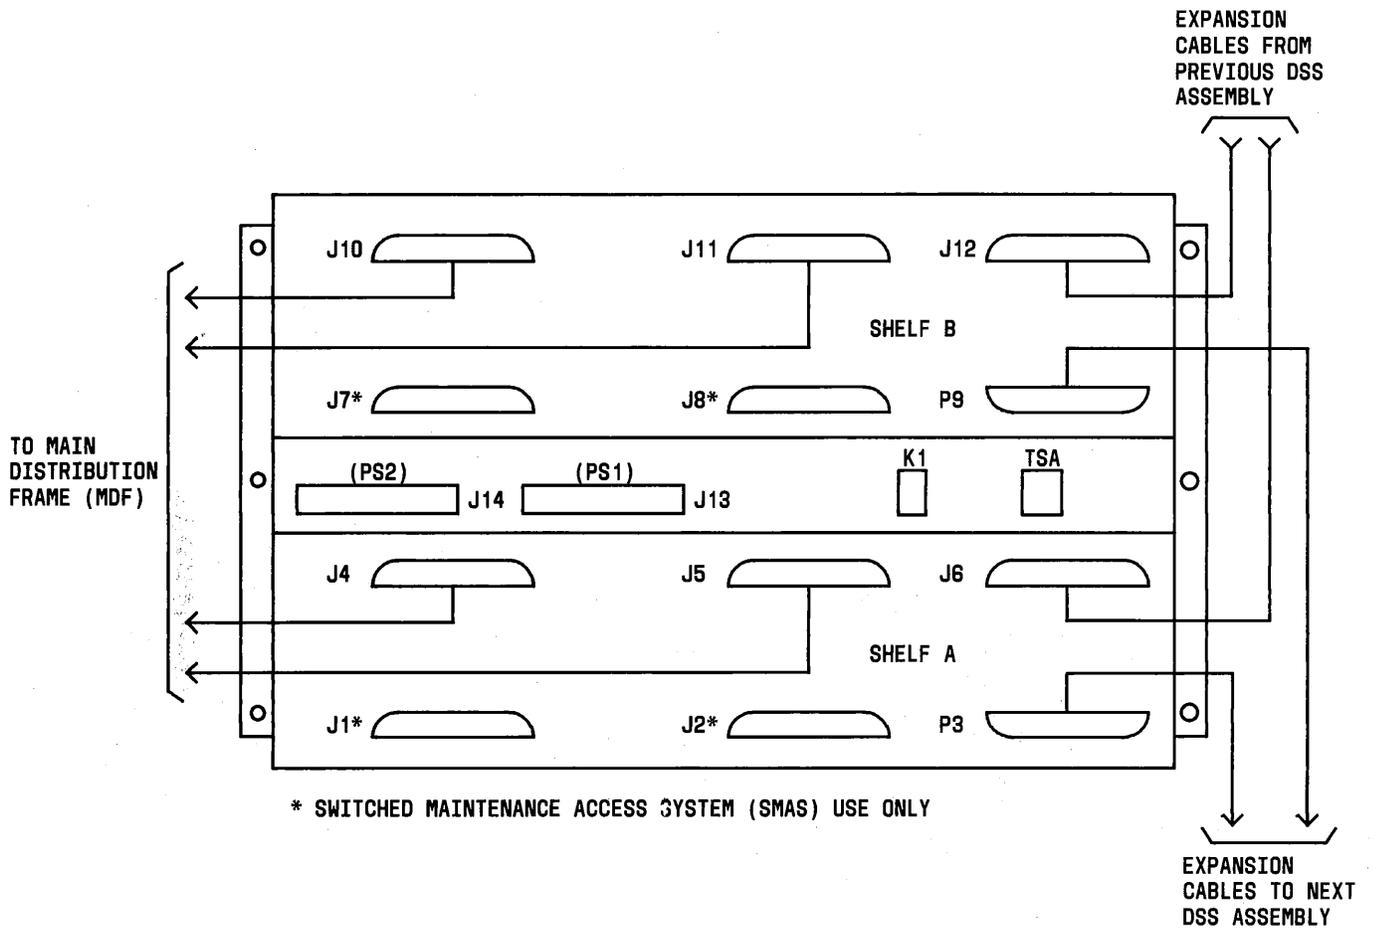

Fig. 21—Cable Connections on DSS Mounting Backplane
- (1) Install DSS mounting in 23-inch bay with ten screws.
- (2) Make all connections to the DSS mounting as shown in Fig. 21.